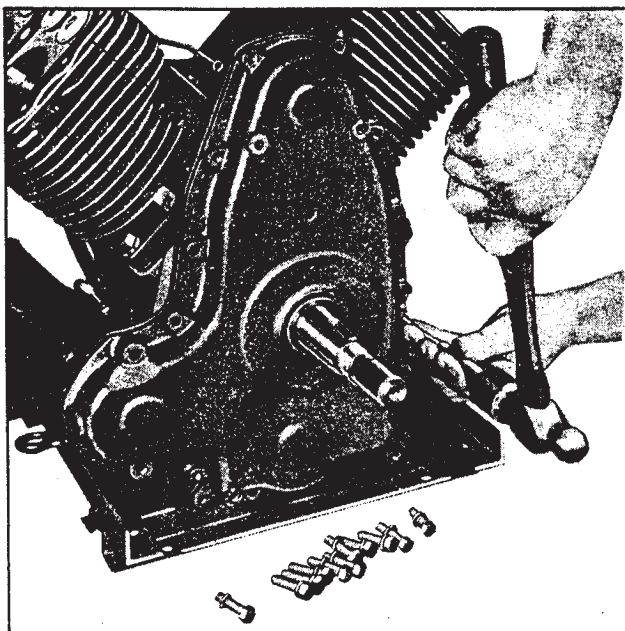
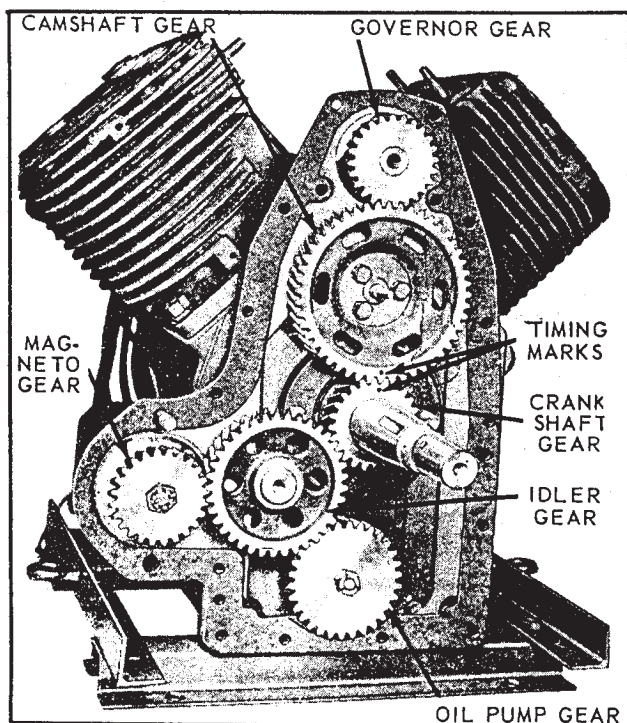

Figure 10-4. Gear Cover Dowel Pin Removal
Figure 10-5. Gear Train
10-13. GEAR COVER. Disconnect the governor linkage and remove the governor assembly. Remove gear cover screws and drive out the two dowel pins as shown in figure 10-4. The gear cover can then be taken off, exposing the timing gears as shown in figure 10-5. On reassembly, torque gear cover capscrews as specified in table 10-1.
10-14. GEAR TRAIN. With the removal of gear cover and oil sling, the gear train will be exposed as shown in figure 10-5. Remove camshaft thrust plunger and spring, to prevent their being lost.
Future reference can be made to figure 10-5 when assembling crankshaft and camshaft, as accurate location of the timing marks is essential.
b. When reassembling crankshaft, the timing marks on the crankshaft gear and camshaft gear must match up (refer to figure 10-5); otherwise, engine will not operate properly, or if timing is off considerably, engine will not run at all.
The camgear has offset mounting holes to provide accurate assembly for valve timing. The gear can only be put on the correct way for matching up the timing mark with that of the crankshaft (see figure 10-5).